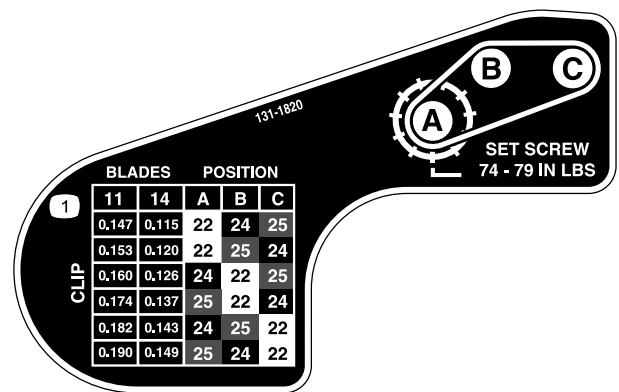

Figure 21
6. Using the chart shown on the decal in Figure 21, determine the clip setting you want and which pulleys you will need to move.
9. Install each pulley in the new configuration as indicated on the decal (Figure 21).